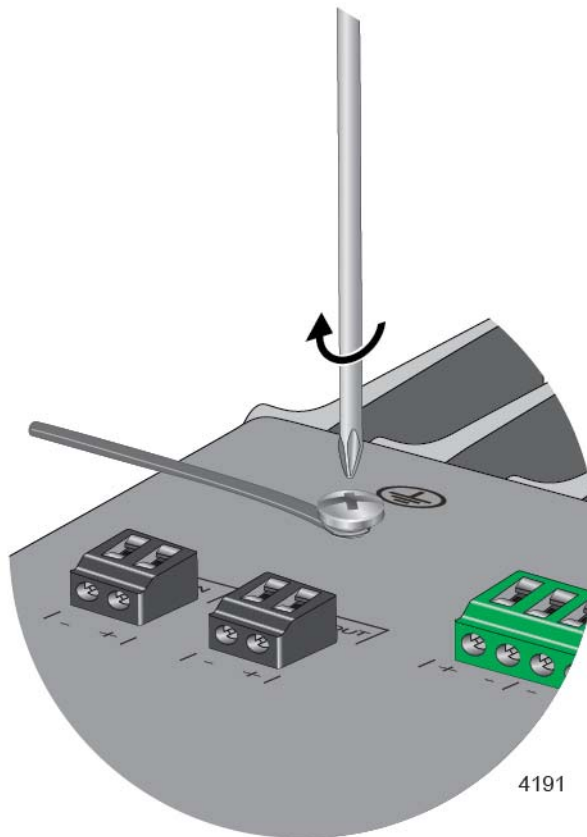

Figure 33. Securing the Grounding Wire to the Switch
4. Tighten the screw to secure the grounding wire to the switch. Refer to Figure 33.